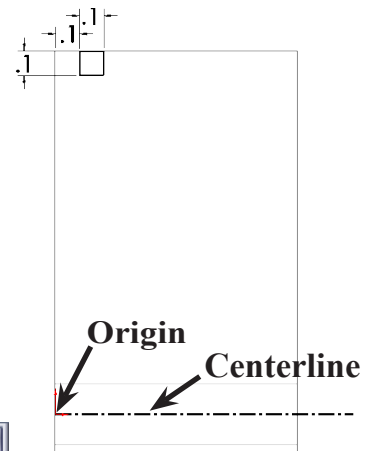

Fig. 12
Step 2. Starting from the Origin , draw a centerline through the center of the wheel, **Fig. 12**.